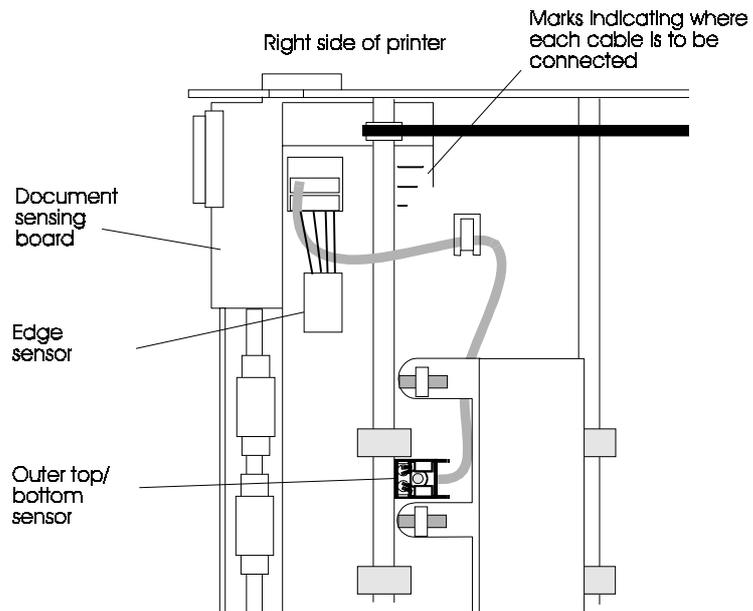

Figure 3-38 Position of the document sensors. The figure shows the printer on its left side with the bottom plate swung out
10. Connect the sensor cable to the document sensing board. The plate above the front pressure roll shaft has three scores of different lengths (see Figure 3-38). These scores indicate to which connector each cable should be connected. The length of the scores correspond to the lengths of the cables. Thus, the longest cable should be connected to the connector opposite the longest score and so on.